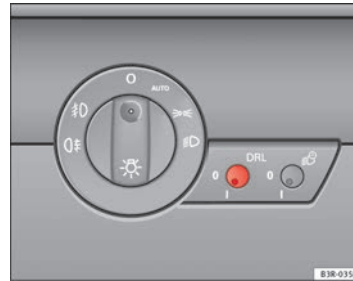

Fig. 88 Daytime running lights switch
- Briefly press the knob => Fig. 88 to release it from its set position.